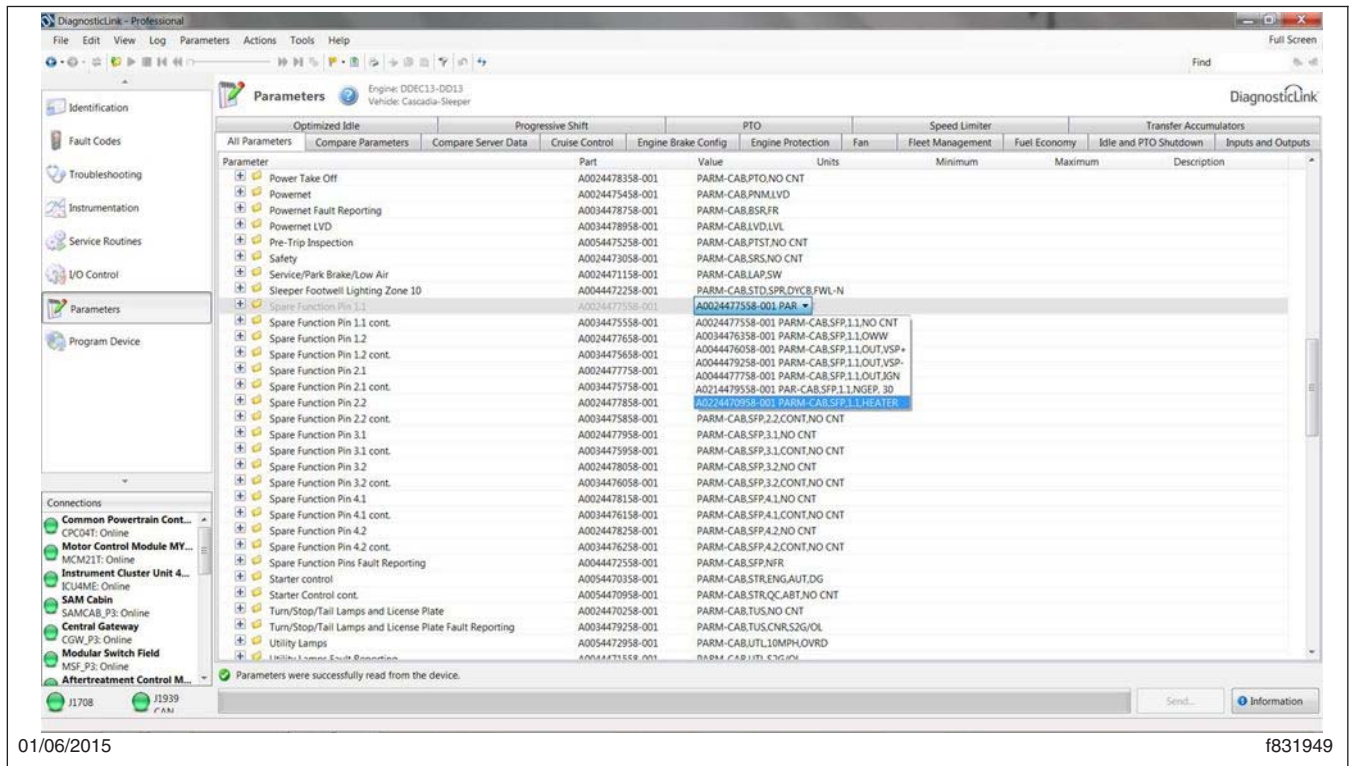

Fig. 4, DiagnosticLink Parameter Screen
- 4.4 Update the parameter values for the destination SFP chosen in Step 3. **Table 2** Lists the SFPs along with the corresponding service parameter sets. **Figure 4** shows an example parameter set changed using DiagnosticLink.